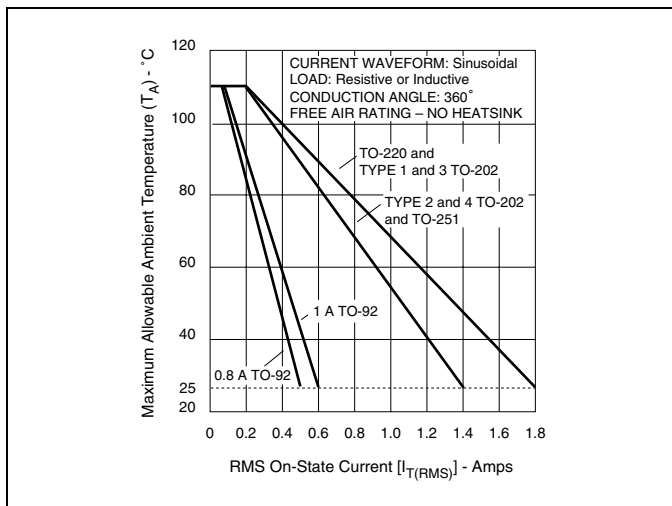

Figure E1.1 Maximum Allowable Ambient Temperature versus On-state Current
- (11) See Figure E1.1, Figure E1.2, and Figure E1.3 for T_A or T_C versus $I_{T(RMS)}$.
- (12) See package outlines for lead form configurations. When ordering special lead forming, add type number as suffix to part number.
- (13) Pulse width $\leq 10 \mu s$
- (14) T_C or $T_L = T_J$ for test conditions in off state
- (15) Minimum non-trigger V_{GT} at $110^\circ C$ is 0.2 V.